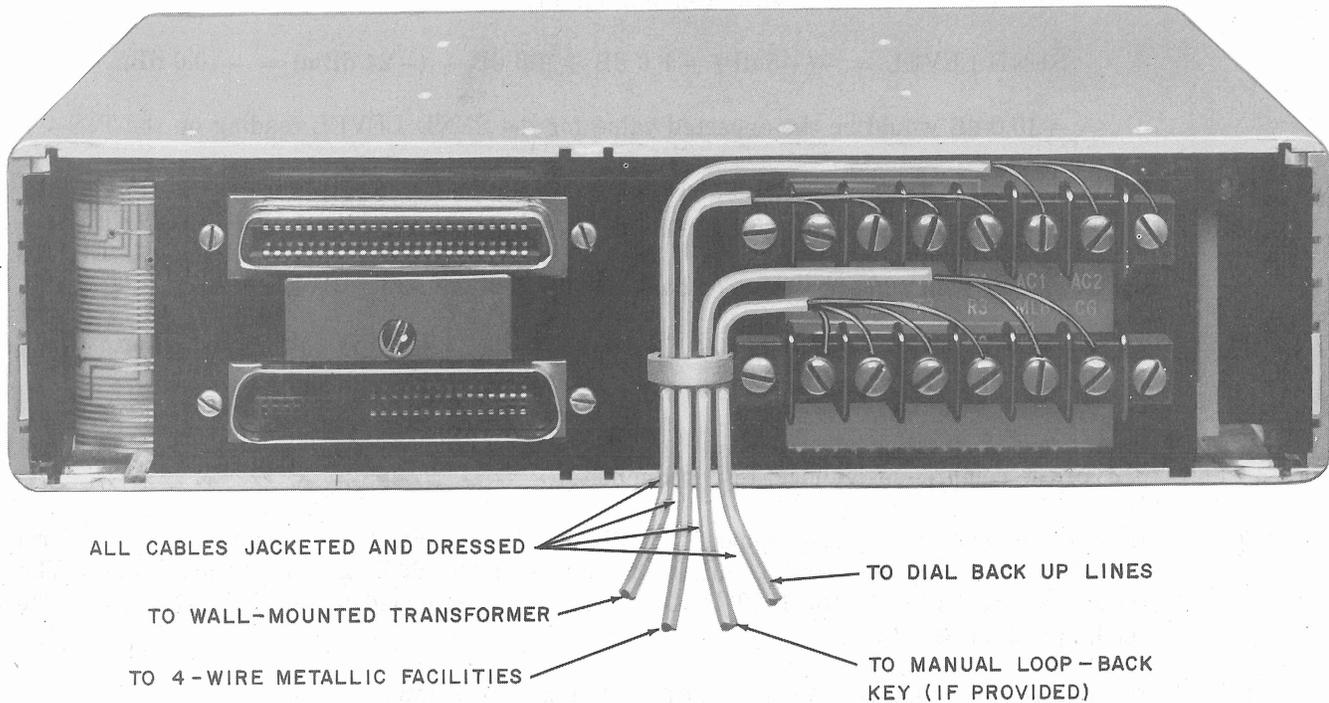

Fig. 3—Rear View of 45A1 Data Mounting Showing Dress of Cable Connections
- 28 Connect the 4-wire PL pairs to terminals T, R, T1, and R1 on the backplane of the 45A1 data mounting. When a locally provided loop-back key is provided, connect the loop-back key pair to terminals CG and MLB on the 45A1 data mounting. A view of the cable lead dress is shown in Fig. 3.